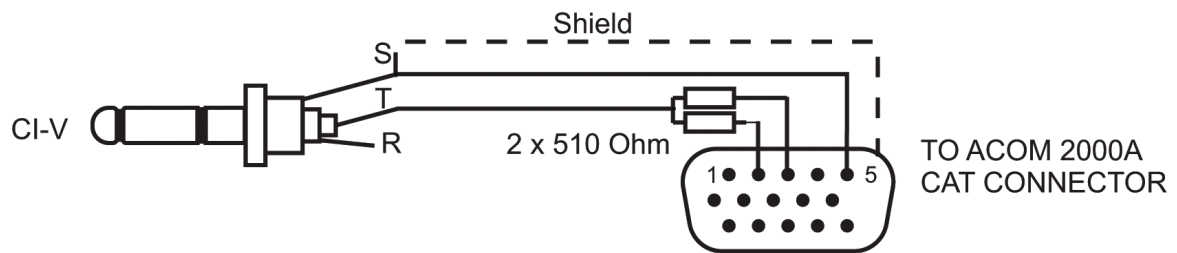

Fig. 7-3 CAT Connection to ICOM CI-V interface
- **ICOM CI-V Interface:** A 3.5mm audio stereo plug, a two conductor shielded cable and two 510 Ohm resistors are required. The wiring is shown on Fig. 7-3.